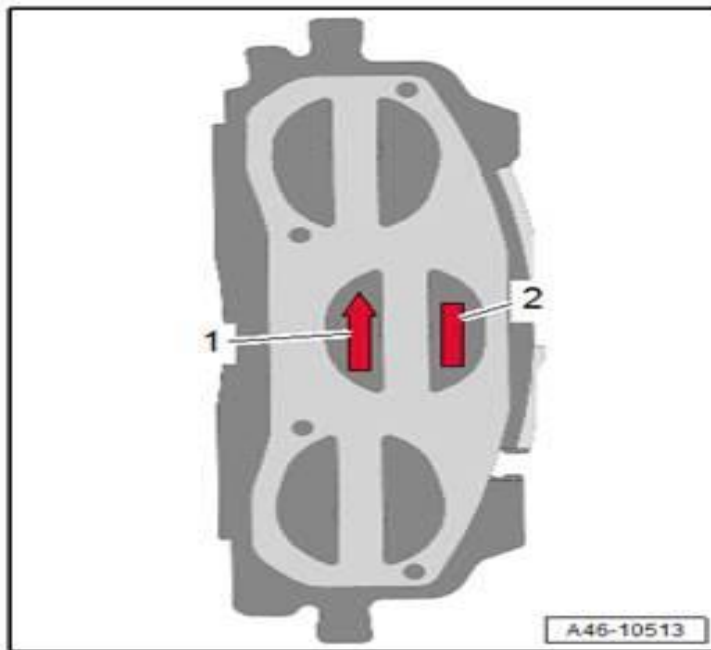

Figure 5. Correct installation positioning for the brake pad.
5. It is mandatory to pay attention to the labeling on the brake pad (Figure 5). Once installed the arrow (1) position on the backing plate must point upward (the pads should be installed with the arrows following the forward rotation of the wheel). Labeling (2) indicate correct assembly position (left outer/inner, right outer/inner).